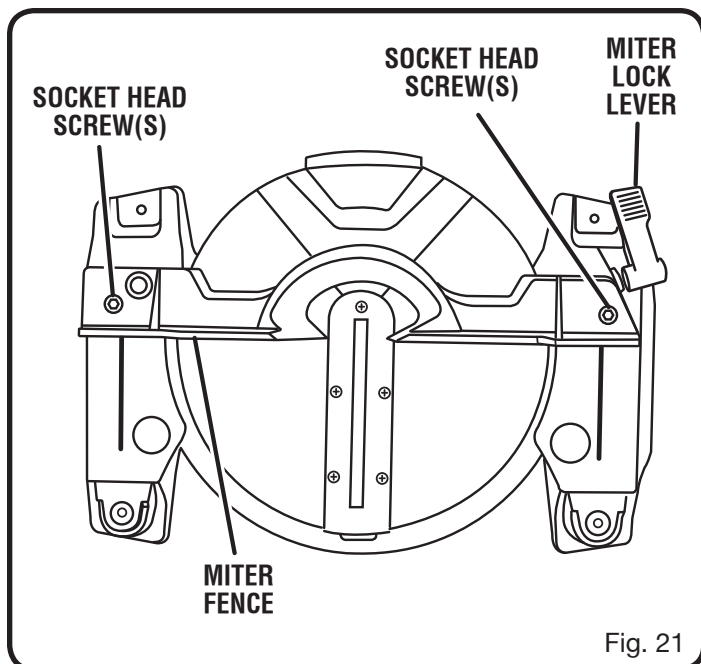

Fig. 21
See Figures 21 - 24.
- Using the blade wrench, loosen the socket head screws that secure the miter fence to the miter table. See figure 21.